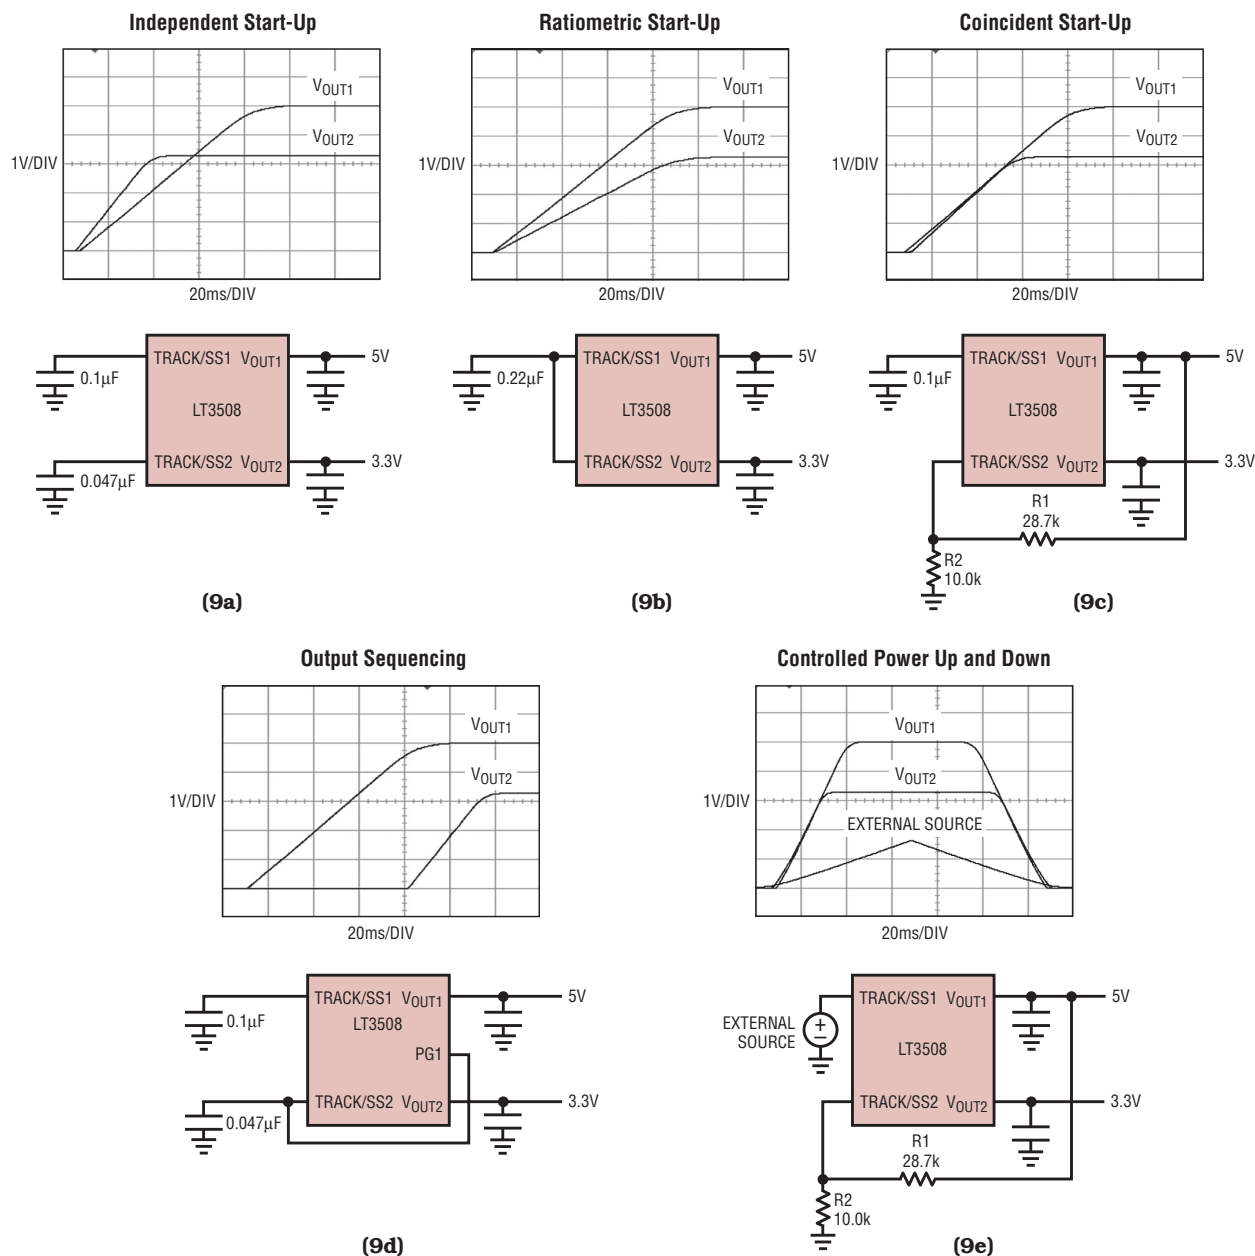

Figure 9. Tracking and soft-start options
DSPs and microcontrollers require power supply sequencing and tracking. Both LT3508 channels have independent tracking and soft-start circuits and each generates a power good signal when its output is in regulation. Most start-up/shut-down scenarios are possible by combining the function of the track/soft-start (TRACK/SS) with the power good (PG) pins. Figure 9 shows how easy it is to implement independent channel soft-start, ratiometric start-up, coincident start-up, output sequencing, and externally controlled power up and power down.